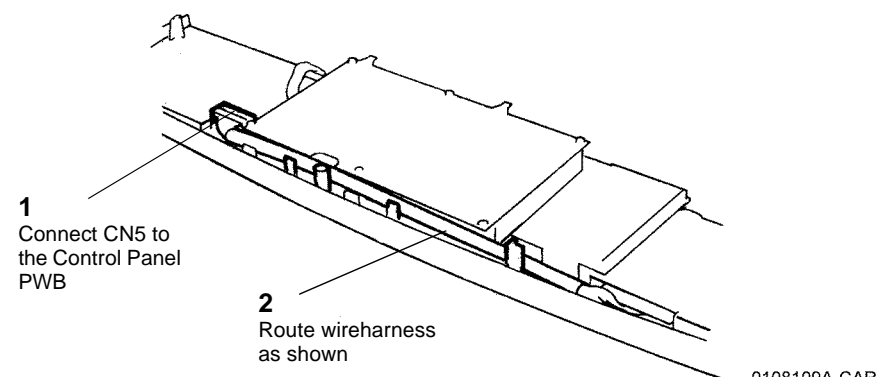

Figure 4 Connecting the One-Touch Panel
2. Connect the One-Touch Panel wireharness to the Control Panel PWB (Figure 4).